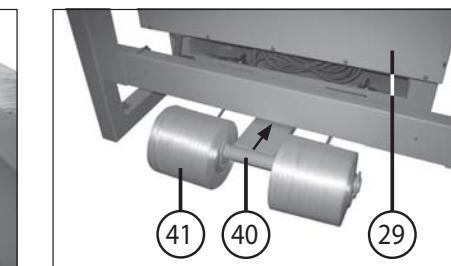

fig. 4
- 40 = strap roll holder (fig. 4 and 17)
- 41 = strap roll (fig. 4 and 17)